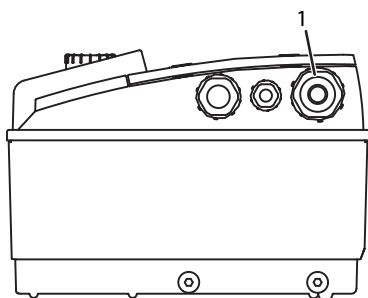

Fig. 22: M25 threaded cable connection
- The power cable is to be fed through the M25 threaded cable connection (Fig. 22, Item 1).